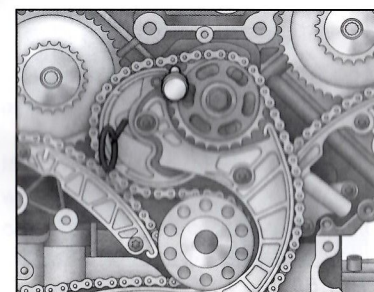

Fig.55
- (3) Install the timing chain tensioner with the timing chain and tighten the tensioner bolts.
- (4) Install the sprocket on to the balance shaft and chain, aligning the elongated holes of the sprocket centrally over the three balance shaft bolt holes. (Fig.55)